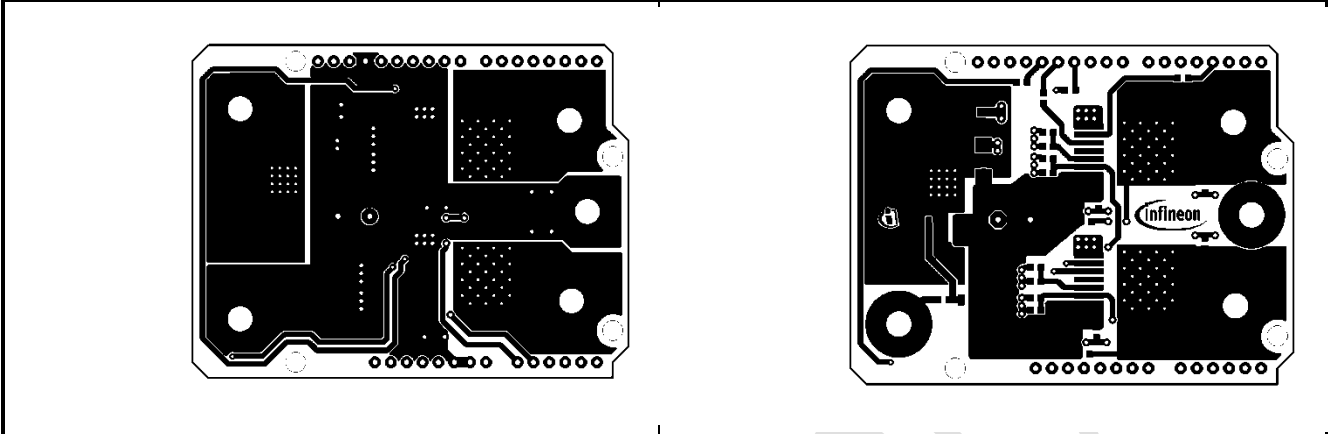
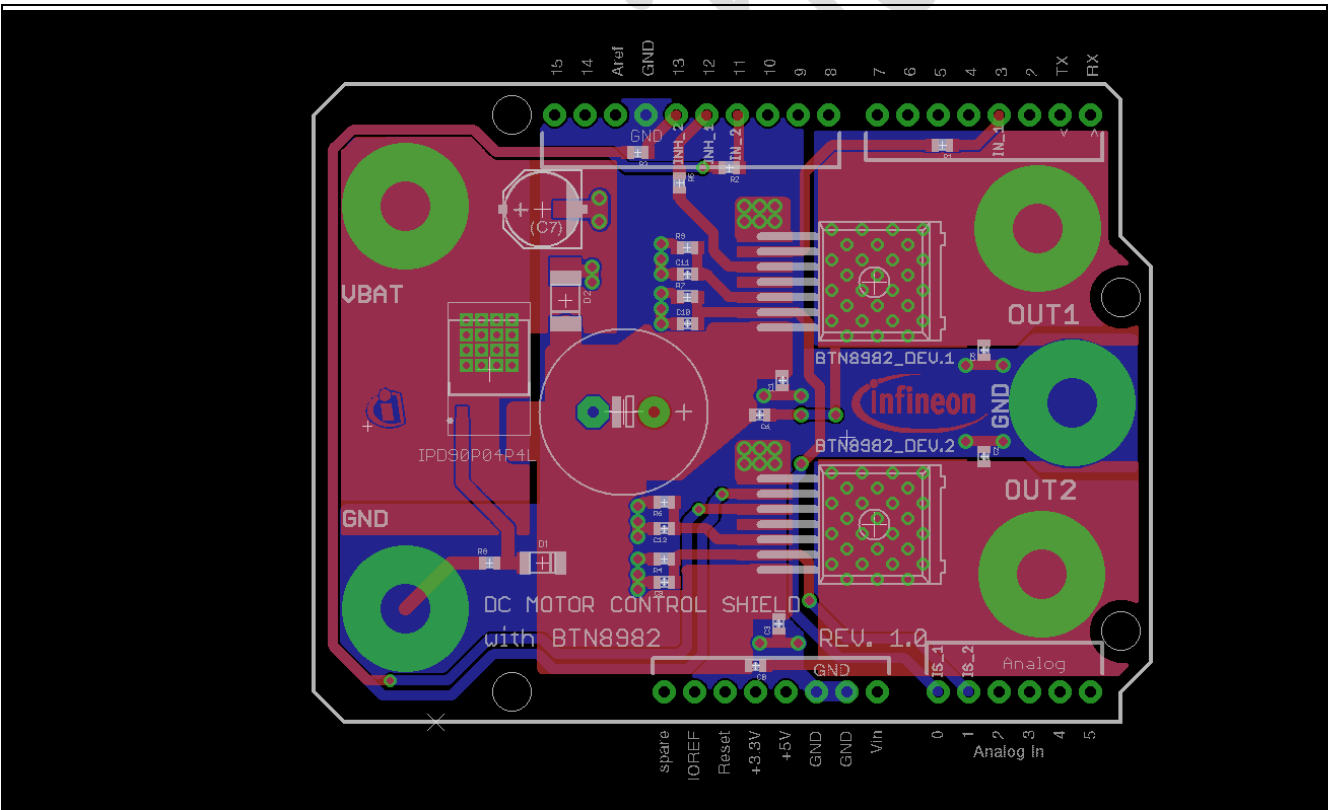

Figure 5 Motor Control Shield - Bottom and top layers
Figure 6 Motor Control Shield for Arduino with BTN8982TA - Layout
Figure 5 and Figure 6 show the layout of the Motor Control Shield. The layout follows the design rules in the BTN8960 /62 /80 /82 High Current PN Half Bridge NovalithIC™ Application Note (also see Chapter 2.3).
- C4, so called DC-link capacitor: This electrolytic capacitor is required to keep the voltage ripple at the Vs-pin of the NovalithIC™ low during switching operation (the applied measurement procedure for the supply voltage is described in Chapter 3.1 of the Application Note). It is strongly recommended that the voltage ripple at the NovalithIC™ Vs-pin to the GND-pin is kept below 1 V peak to peak. The value of C4 must be aligned accordingly. See therefore Equation (10) in the Application Note. Most electrolytic capacitors are less effective at cold temperatures. It must be assured that C4 is also effective under the worst case conditions of the application. The layout is very important too. As shown in Figure 6, the capacitor C4 must be positioned with very short wiring close to the NovalithIC™. This must be done to keep the parasitic inductors of the PCB-wires as small as possible.